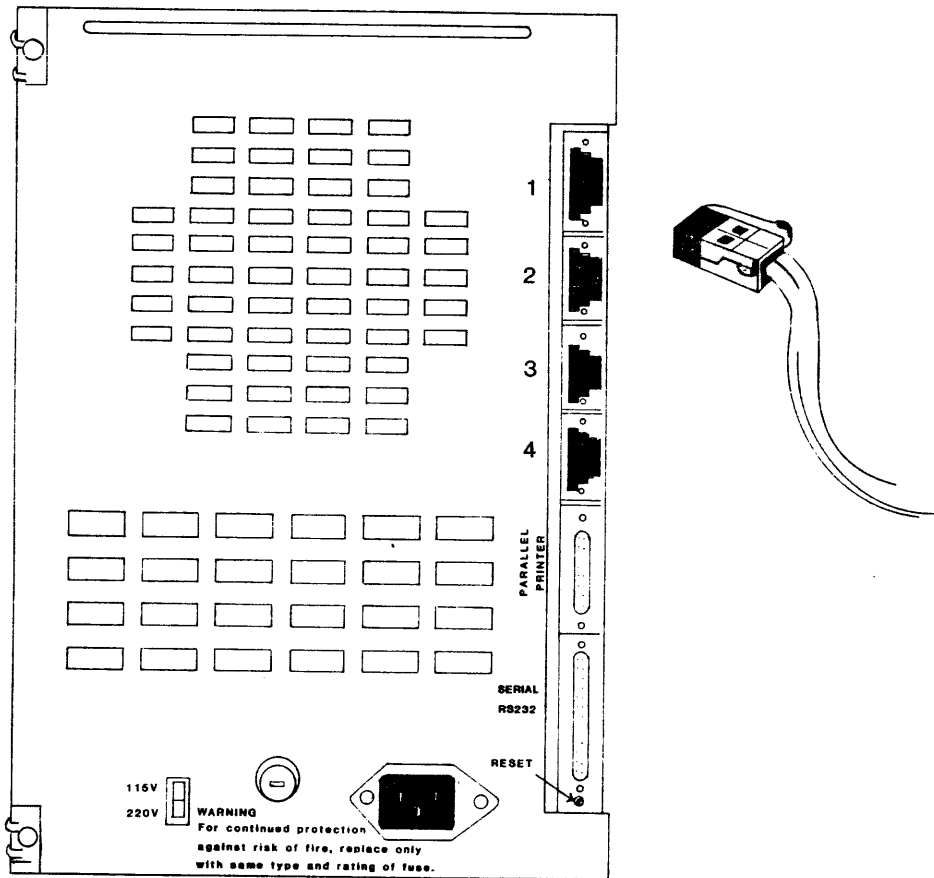

Figure 2-5. Connecting the First Terminal to the Desktop Unit
4. Plug the SDL 4-pin telephone-style connector end of the same terminal cable into the first (top) terminal port, labelled as 1, at the rear of the Desktop Unit (see Figure 2-5).